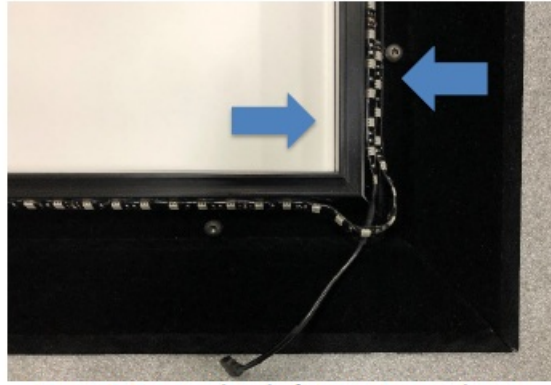

Figure 9: Start and end of LED strip attachment
1. Use the following steps to connect the LED kit to the Balón Series. Note: This step should always precede screen material attachment. Start at either bottom corner of the back of the Balón frame, depending on which side you would like your power supply to run on (see Figure 9).